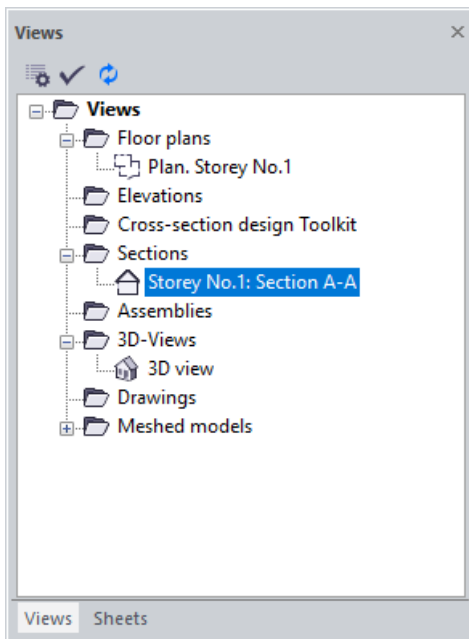

Figure 27.12. How to open the section A-A
- ⇒ In the **Views** window (see Fig. 27.12), double-click the **Storey No.1: Section A-A** row in the **Sections** folder.